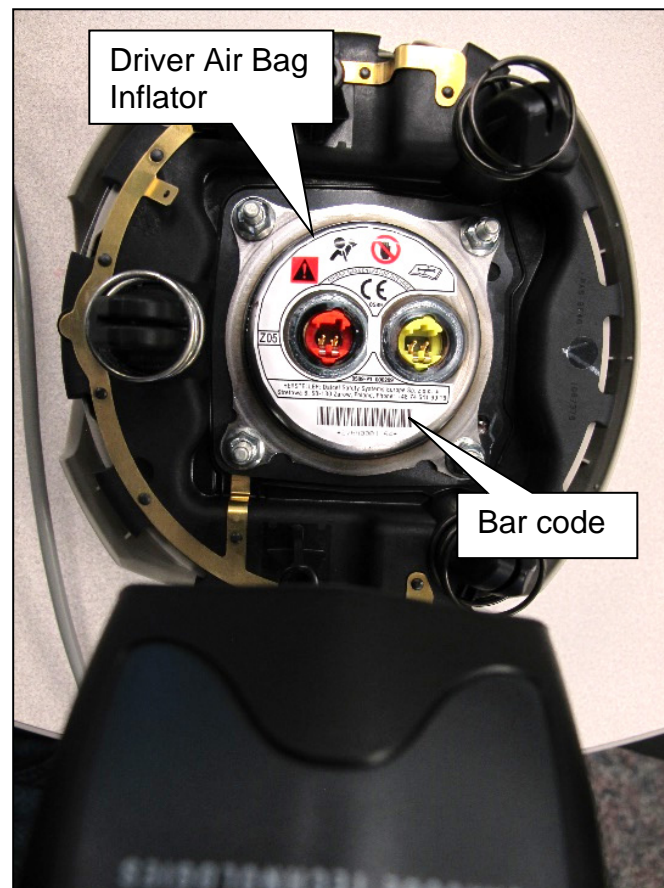
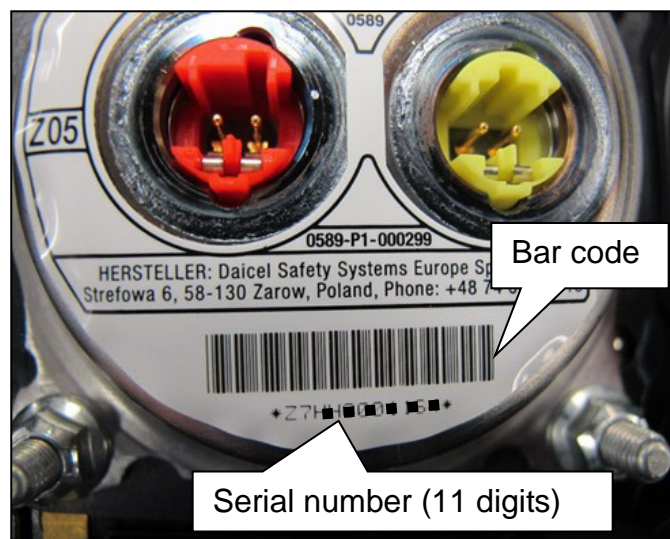

Figure 13
Figure 14
18. Use the quick scan tool to scan the bar code serial number of the new Driver Air Bag Inflator (Figure 13 and Figure 14).